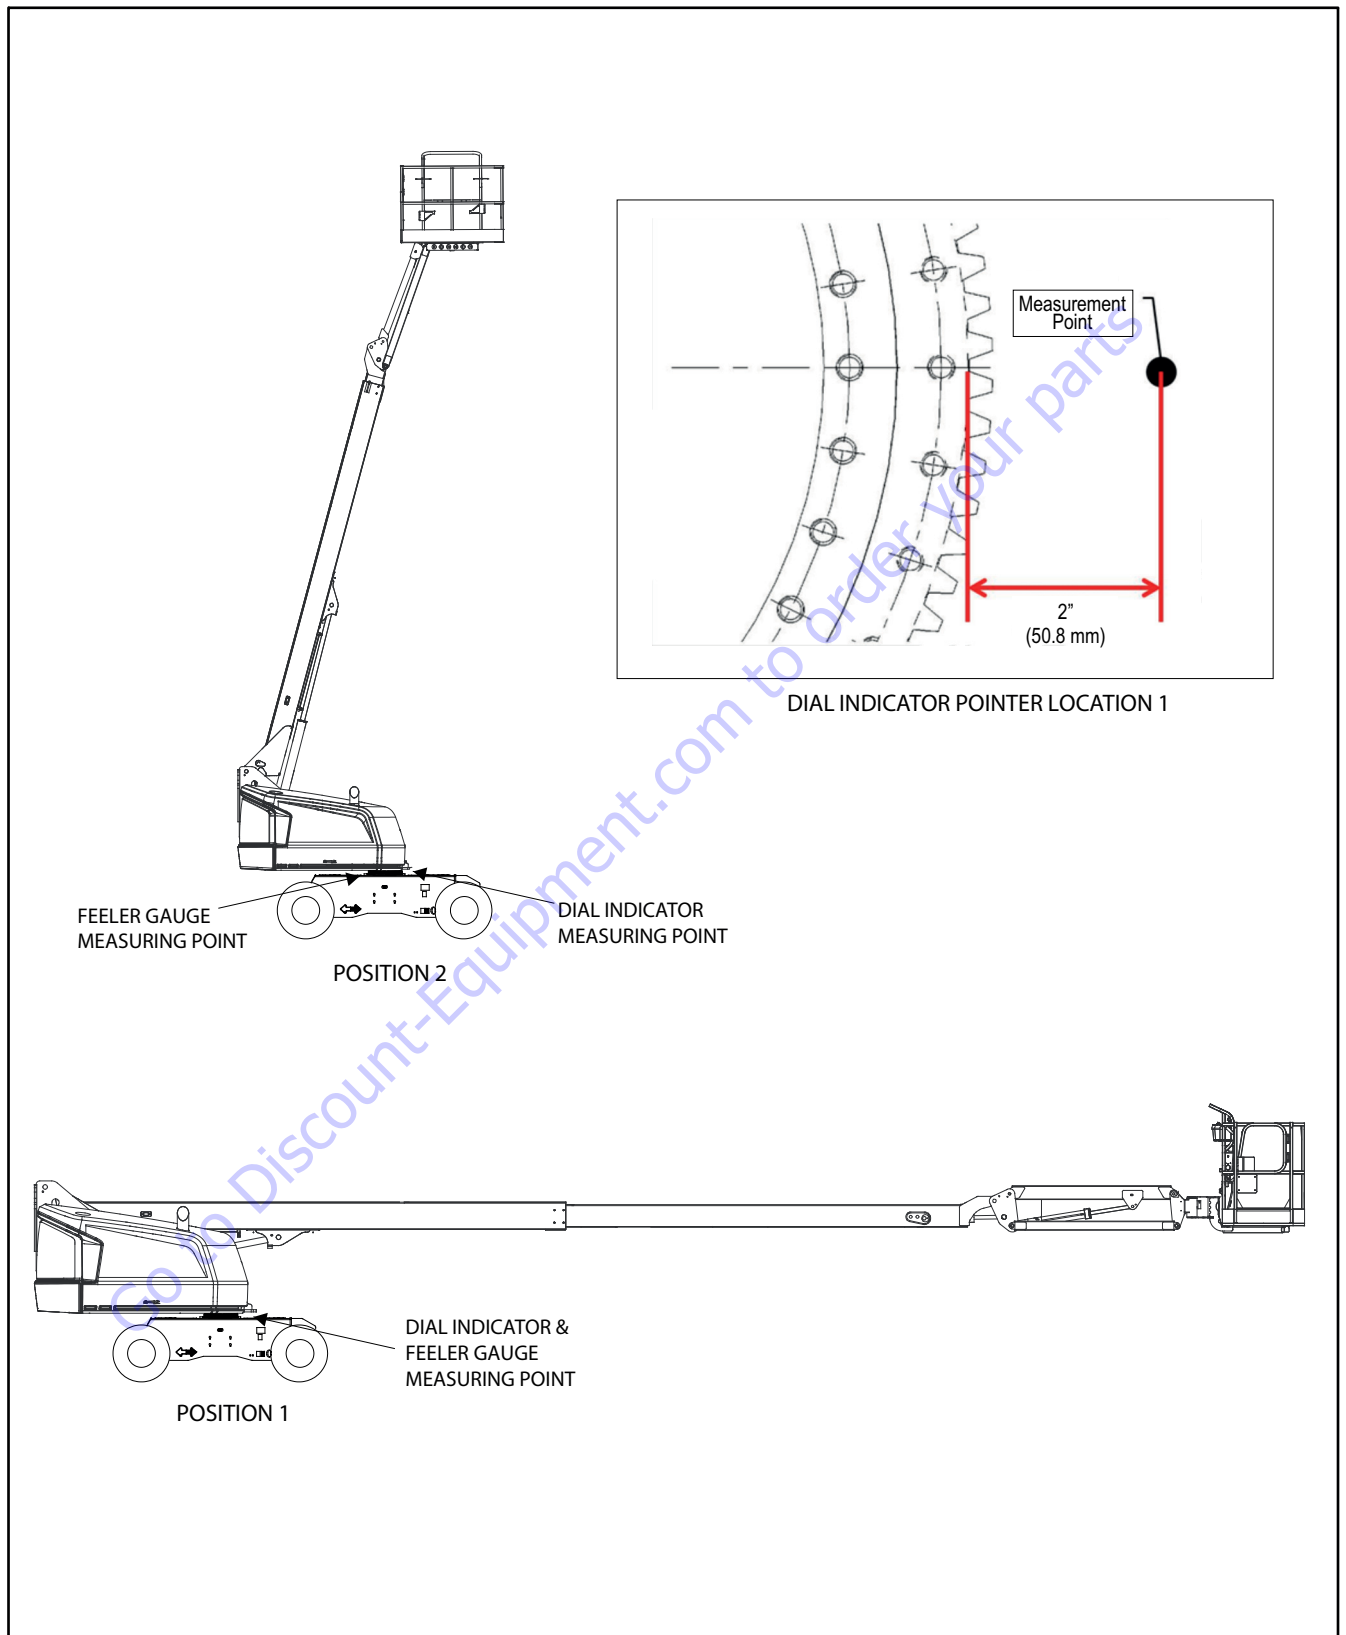

Figure 3-60. Swing Bearing Wear Tolerance
See Figure 3-60., Swing Bearing Wear Tolerance.
1. Position the machine as follows and as seen in Figure 3-60., Swing Bearing Wear Tolerance, Position 1:
5. Position the machine as follows and as seen in Figure 3-60., Swing Bearing Wear Tolerance, Position 2:
7. Return the machine to Figure 3-60., Swing Bearing Wear Tolerance, Position 1. The dial indicator should return to zero. If the dial indicator does not return to zero, take corrective action and repeat the test.
- a. Elevate the fully extended main boom to horizontal as shown in Figure 3-60.
- a. Elevate the fully retracted main boom to full elevation as shown in Figure 3-60.